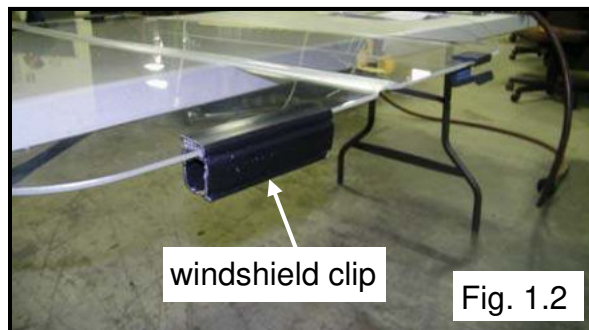

Fig. 1.2
- 1.2** Per figure 1.2, position the windshield clips in the approximate center of the sides of the lower window. Use the rubber mallet to seat the clip within an 1/8" of the edge of the windshield.